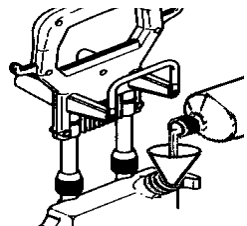

fig 8
- 4.4.1. Pour detergent into the opening at the top of the detergent tank located underneath the handle assembly (fig 8).